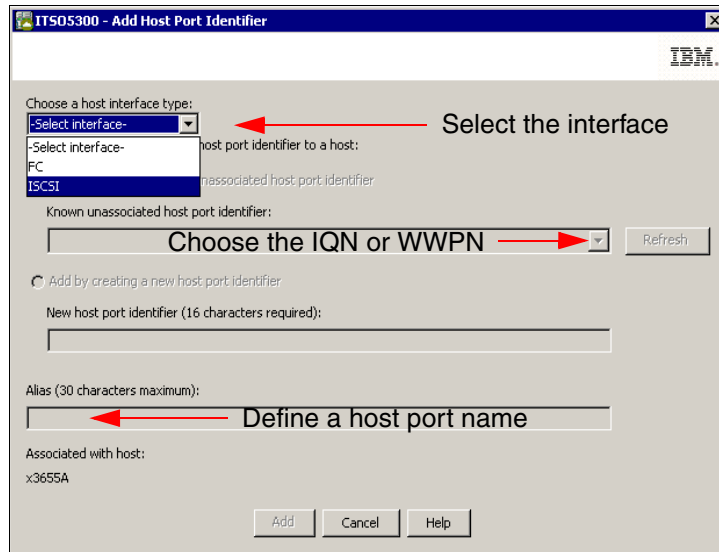

Figure 6-36 Add Host Port Identifier
2. From the Add Host Port Identifier window, select the interface, known IQN or WWPN from the Known unassociated host port identifier drop-down list and define a host port name (as shown in Figure 6-36).